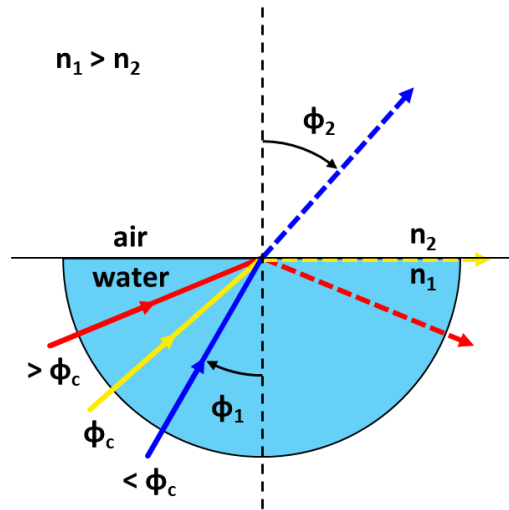

Fig. 10: Light emerges from water into air until the angle is greater than the critical angle at which point the light undergoes total internal reflection.
1. Reverse the situation by shining the laser through the curved circular side of the semi-disk such that it emerges from the water into air on the flat side at the intersection point of the perpendicular lines (see Fig. 10).